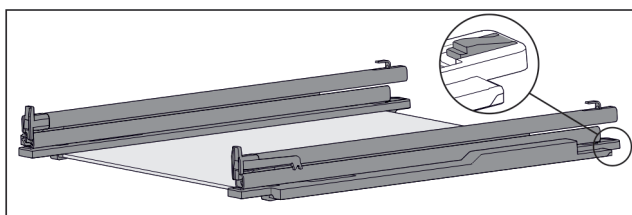

Fig. 149 Glass shelf with rails and retaining parts
- Press down retaining part at the rear (see Fig. 149) and at the same time push the rail back.